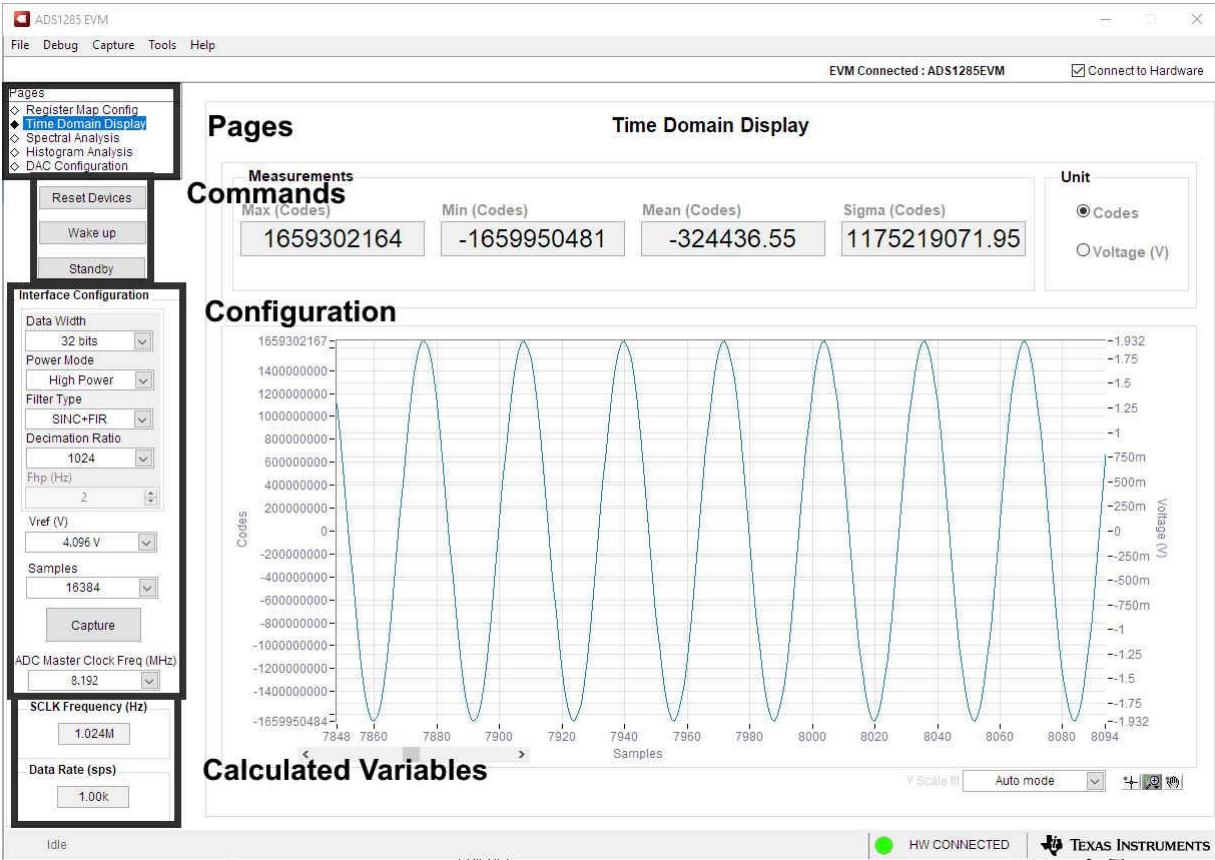

Figure 2-2. EVM GUI Global Input Parameters
5. As shown in Figure 2-2, use the *Configuration* section of the GUI for a specific clock input, desired data rate, and number of samples. Then, use the **Capture** button to collect data. Section 8.1 details the EVM GUI global input parameters and the various pages within the GUI.